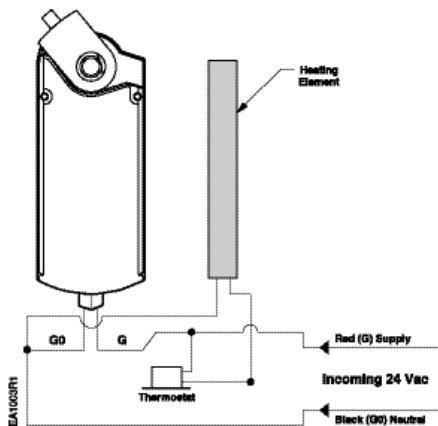

Figure 2. Wiring Diagram.
5. Wire heater and thermostat, see *Figure 2*.